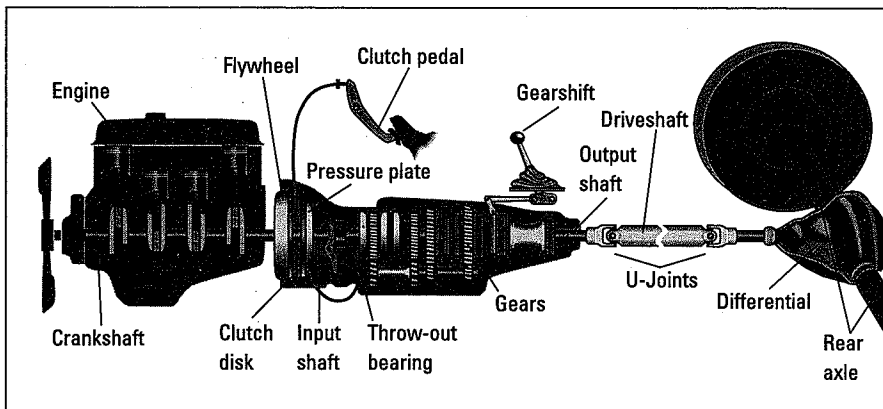

Figure 4-7:
12. When you shift into Drive (or First, if you have a manual transmission), a set of gears causes the rest of the crankshaft (which is called the driveshaft after it leaves the transmission) to turn at a particular speed. See Figure 4-7.